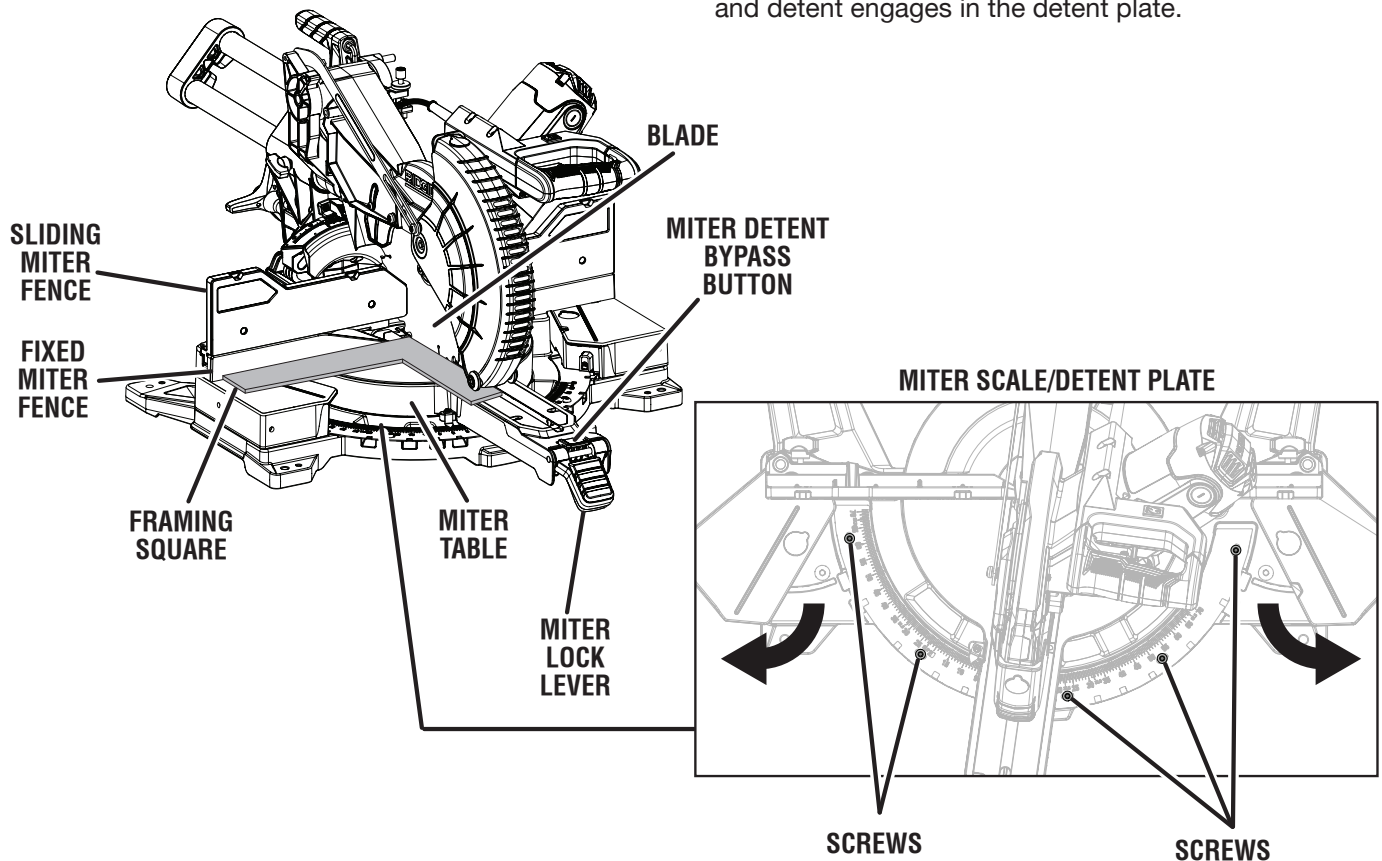

Fig. 20
See Figures 20 - 24.
- The edge of the square and the saw blade should be parallel as shown in figure 20.